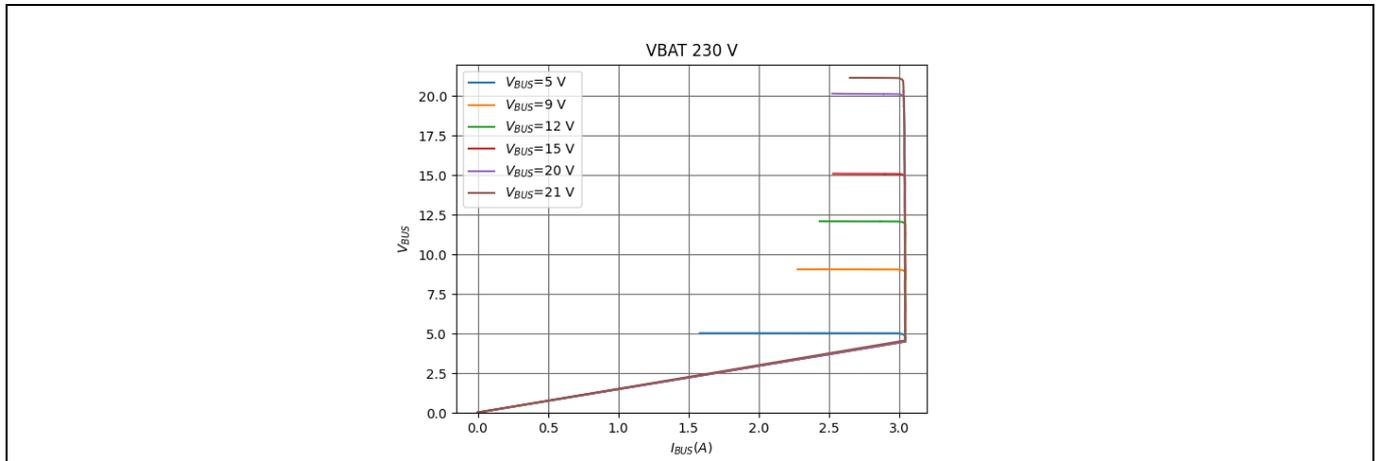
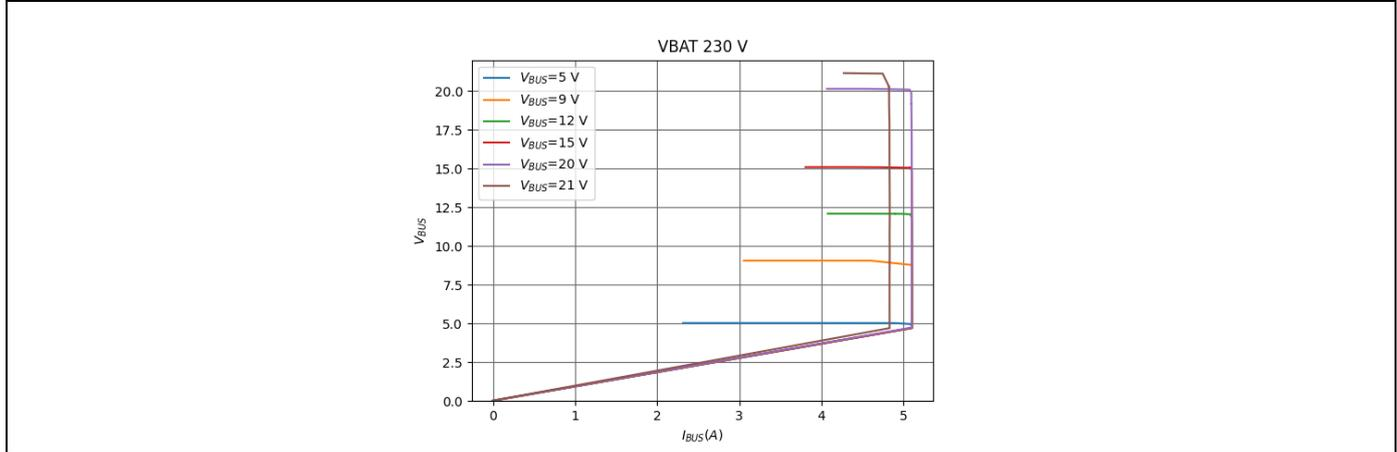

Figure 47 CC regulation curve at 230 V_{AC} input and 3 A output current
Figure 48 CC regulation curve at 230 V_{AC} input and 5 A output current
Output constant current (CC) regulation of port measured at 3 A and 5 A output currents is shown in Figure 47 and Figure 48.